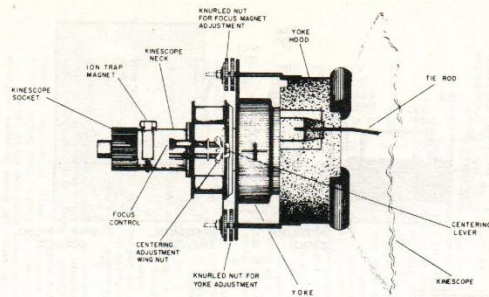

Fig. 3—Yoke and Focus Magnet Adjustment
- 16.) Disconnect I.F. sweep and connect RF sweep to antenna terminals and check overall curves on all channels, checking also oscillator setting, retouch T108 if necessary to correct for a tilt which would be essentially the same on all channels. See Fig. 3.